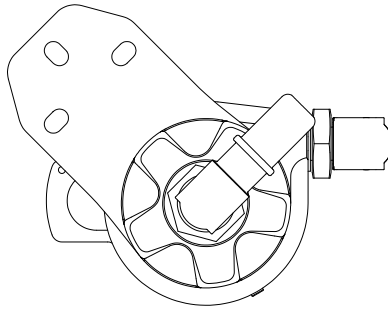

Figure 2 - Preparing the Adapter Fittings
- d. Position as shown in Figure 2.